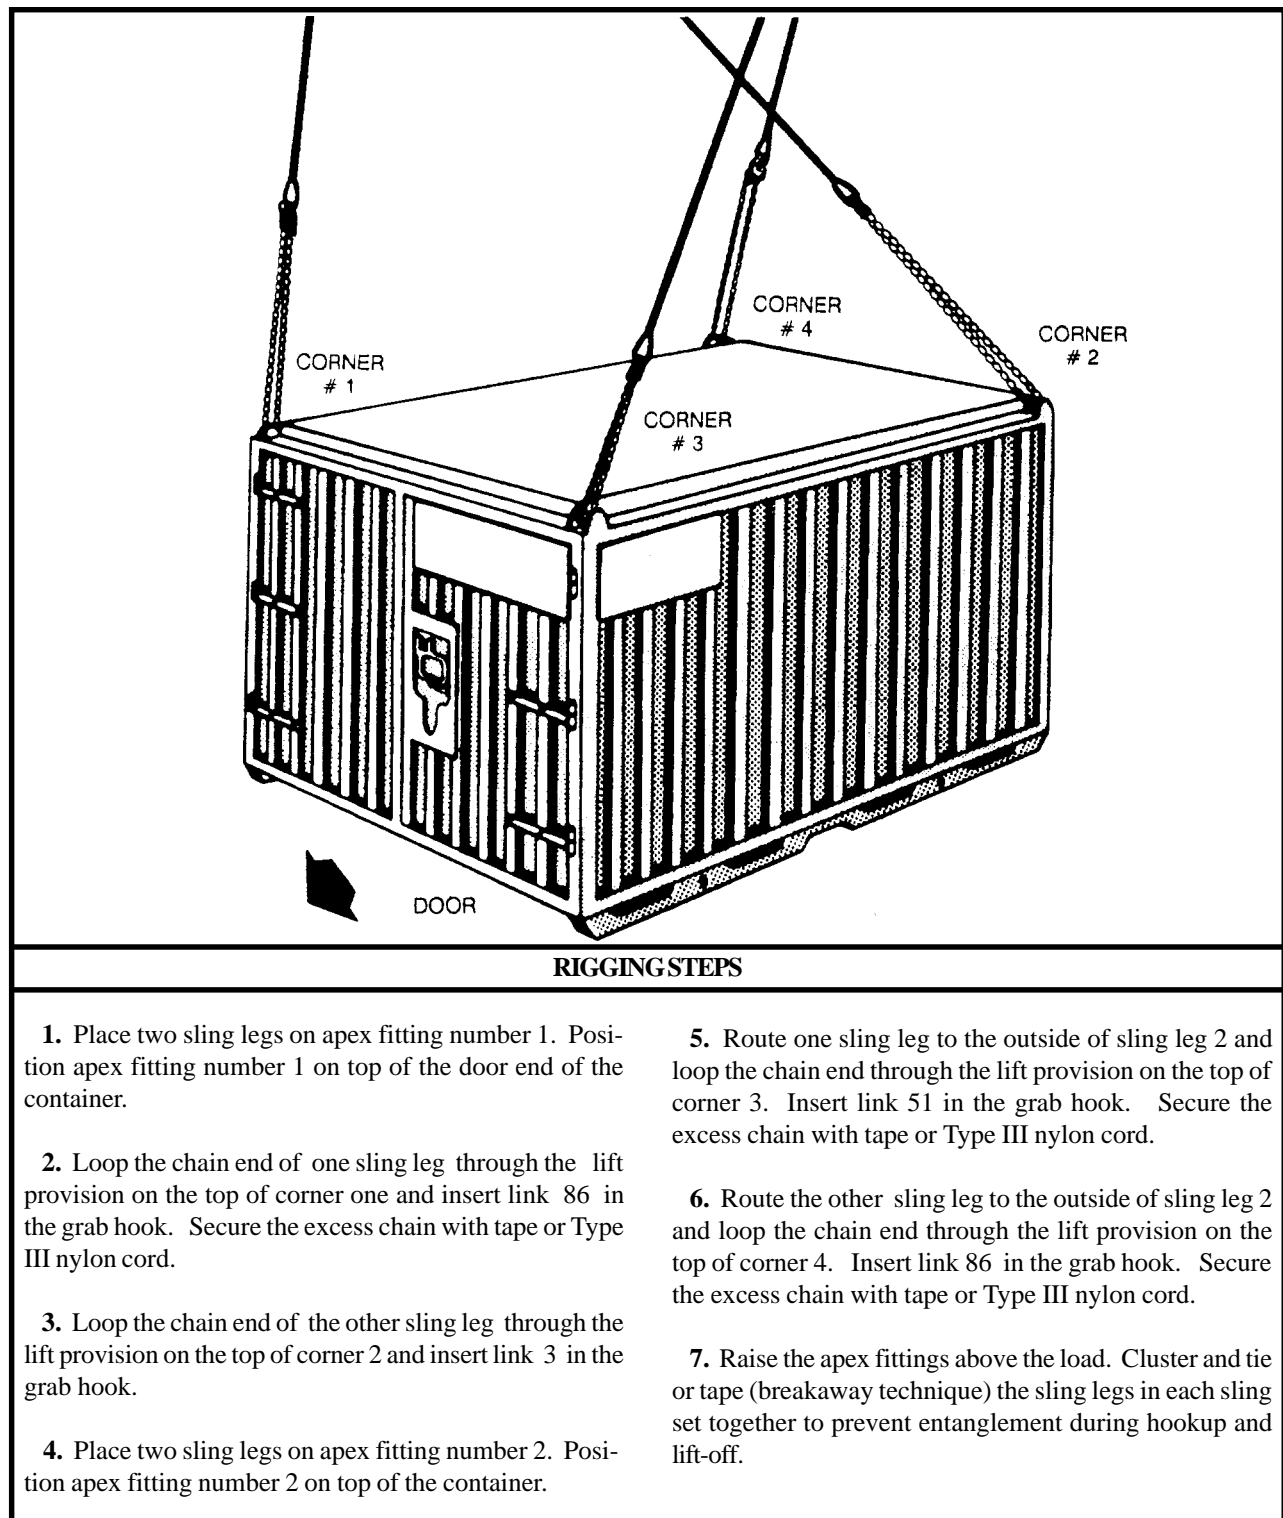

Figure 14-4. One Conex Container
(2) **Rigging.** Rig the load according to the steps in Figure 14-4.
(4) **Derigging.** Derigging is the reverse of the preparation and rigging procedures in steps d (1) and d (2).